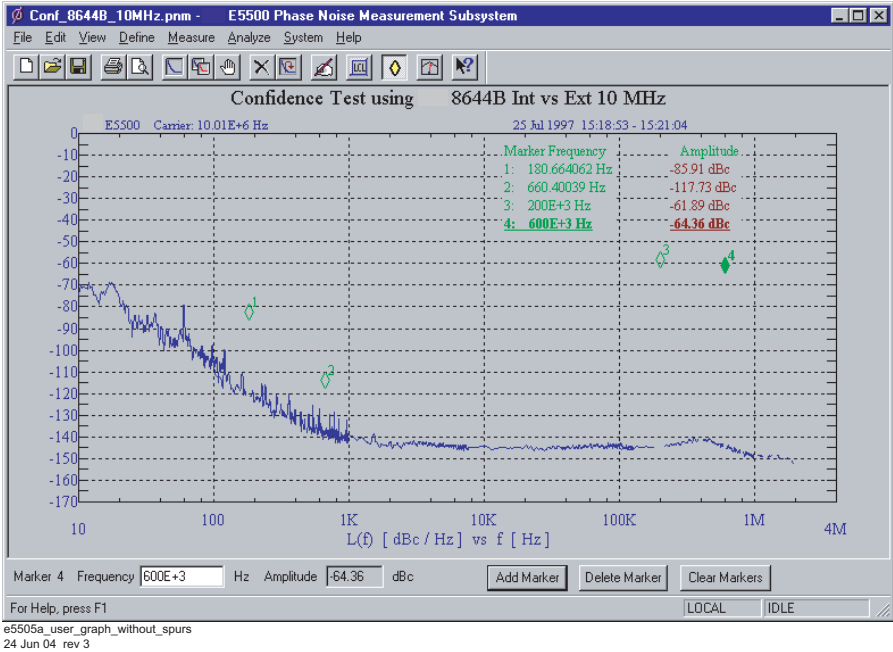

Figure 64 Graph displayed without spurs
- The graph is displayed without spurs. See Figure 64 on page 101.